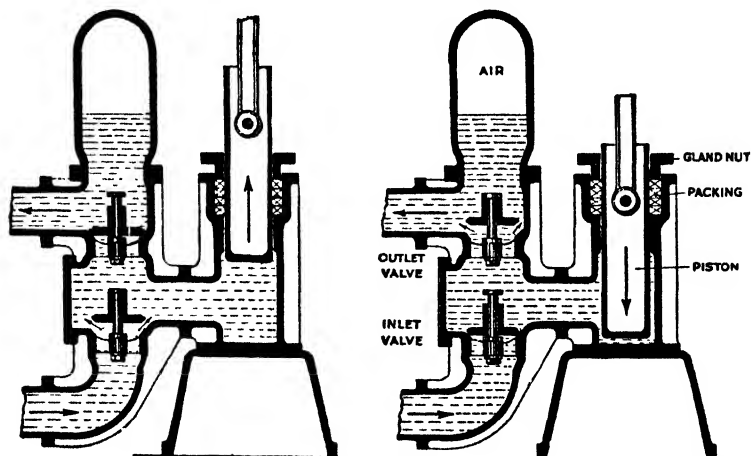
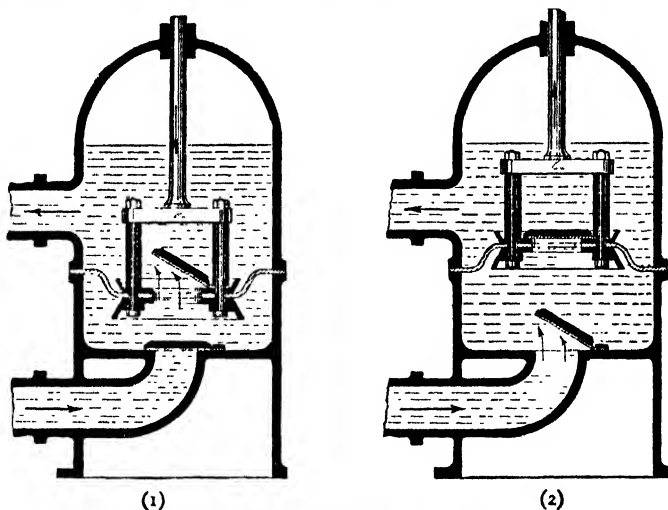

FIG. 103.—A force pump.
FIG. 104.—The diaphragm pump.
in one direction but not in the other. Figs. 103, 104 show two kinds of valves. Those in Fig. 103 are poppet valves, those in Fig. 104 are flap valves.
The simplest of pumps is the force pump, and Fig. 103 shows
piston (Fig. 82). It operates on exactly the same principle as the diaphragm pump (Fig. 104) which is a lift-pump with a leather disc instead of a piston. When the disc is raised (2) water enters: when it is forced down (1) the water opens the valve in the diaphragm and passes to the other side. On the third stroke (2) the water is lifted out by the exit pipe and new water enters from
Pumps for handling gases are very much like those used for handling liquids. The ordinary pump used to compress air or exhaust air is a force-pump—in principle just like the force-pump in Fig. 103. The ordinary bicycle-pump is different from other pumps in having the piston and inlet valve in one. The piston is a cup-shaped piece of leather. When the handle is drawn up, air enters between the piston and wall: when it is forced down the air pressure forces the leather against the wall and makes the piston airtight.